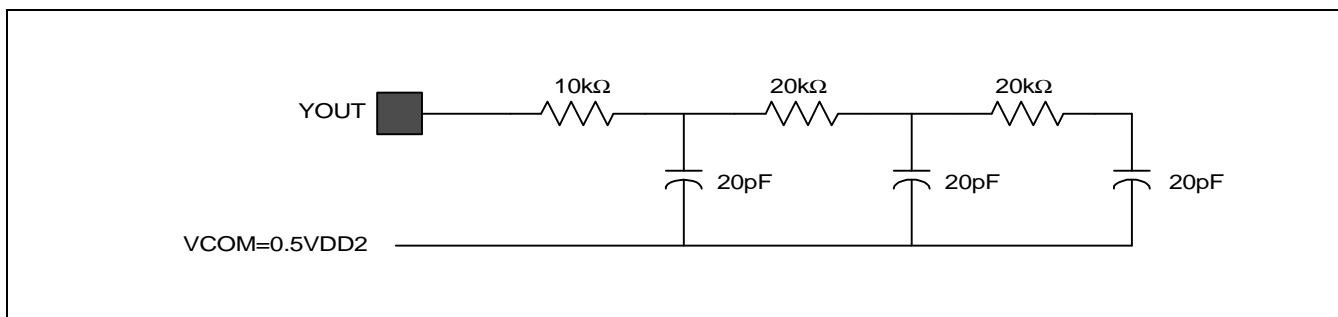

Figure 4. Yout Load Condition
- Yout load condition (refer to Figure 4. Yout Load Condition) applied.
3. Your load condition (refer to Figure 4. Your Load Condition)